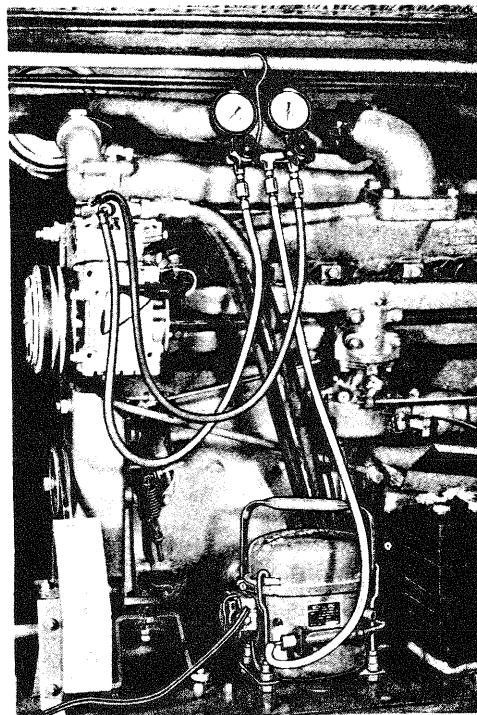

FIGURE 9
3.1 Attaching Manifold and Gages (fig. 9)
3.2 Evacuation by Vacuum Pump (fig. 9)